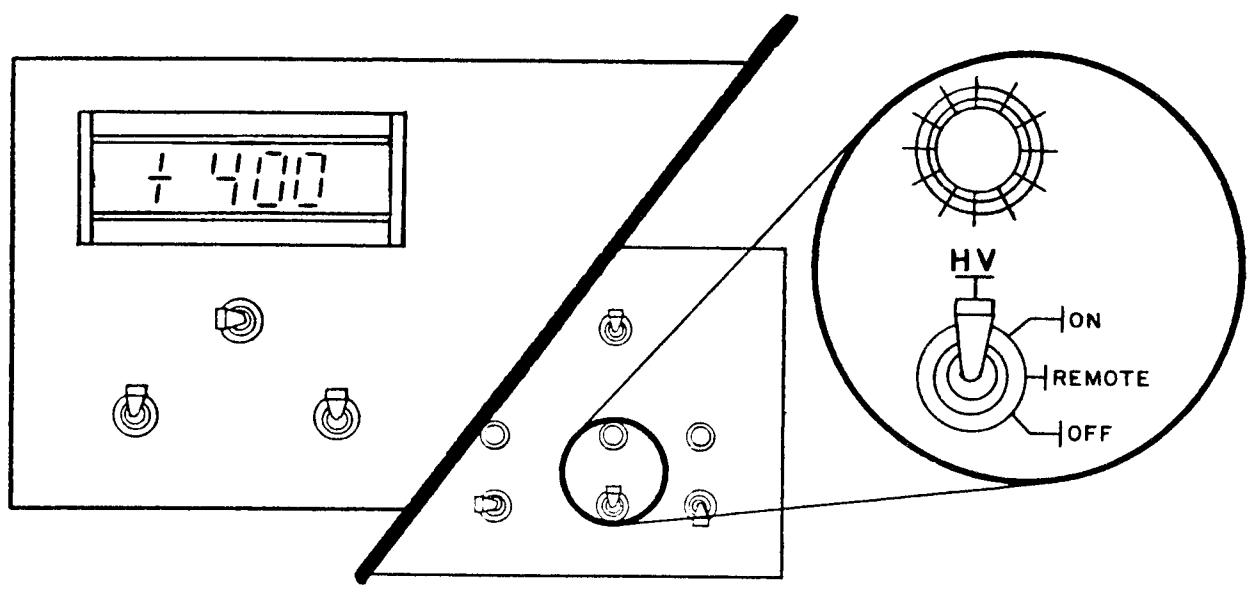

Figure 50. HV Switch to ON
g. Wait thirty seconds after the POWER switch has been set to ON, then flip the HV switch to ON (see Figure 50). The DPM displays the 400 μ A flowing in the external load if the 8000 V limit is not exceeded.